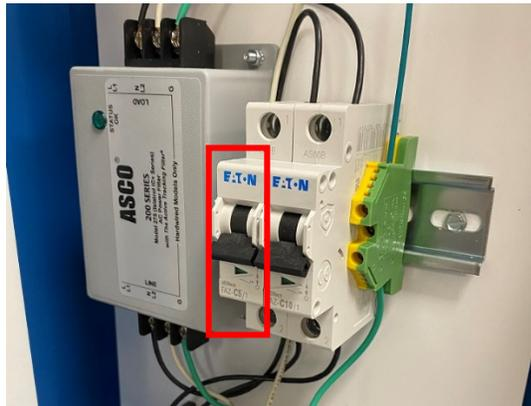

Figure 5.1: Circuit Breakers
1. To replace a pump, first power down the system using the 5A breaker shown in figure 5.1.